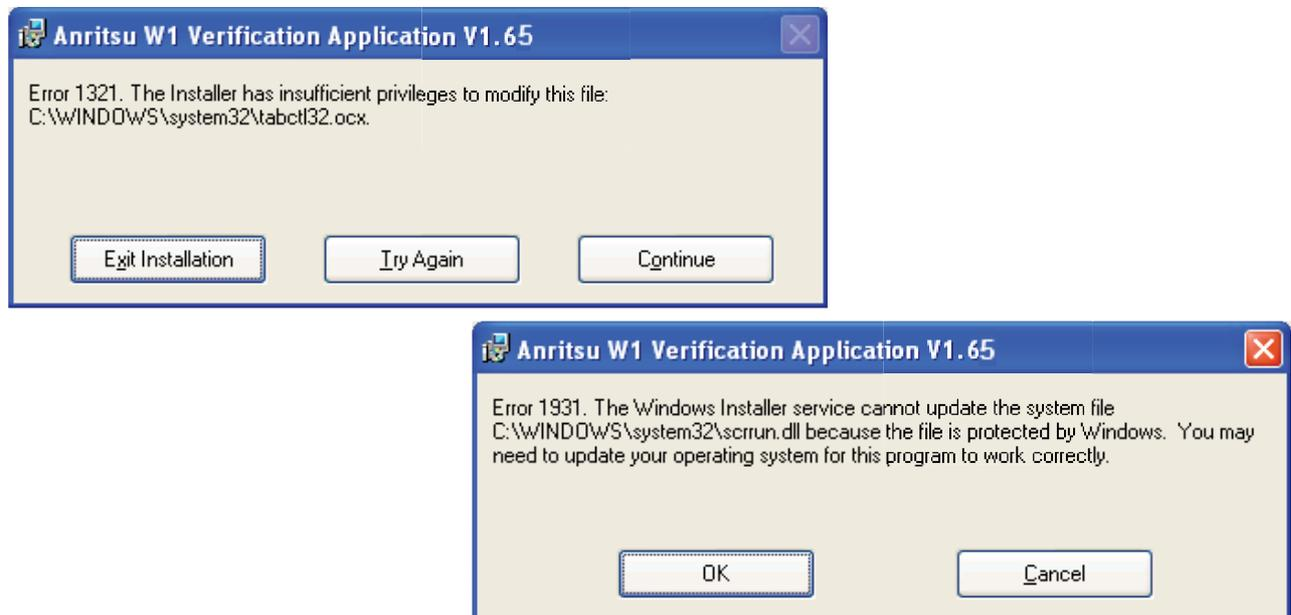

Figure 5-3. Installation Error 1321 and Error 1931 Dialog Boxes
8. If either of the two dialog boxes shown in Figure 5-3 appear that display Error 1321 or Error 1931, follow these instructions: